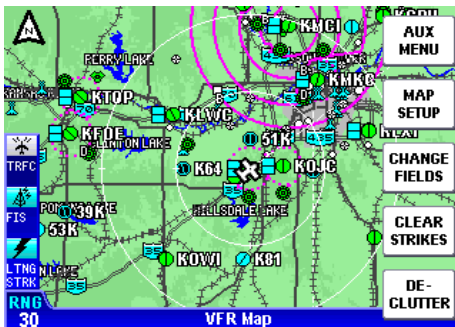

Figure 1-176
1. Press the **MENU** Key to display the **AUX MENU** Softkey as in Figure 1-176.